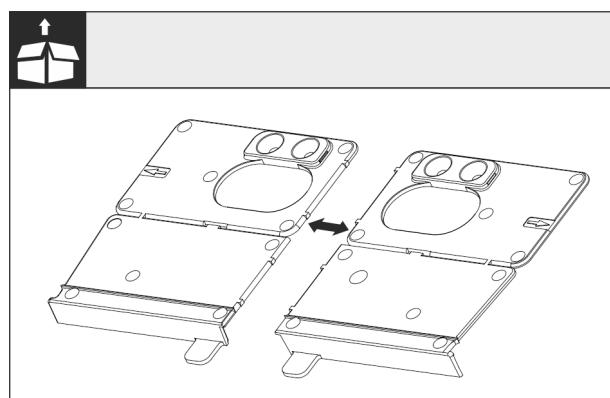

Fig. 27
► Separate the floor mounting bracket Fig. 27 I at the perforation.